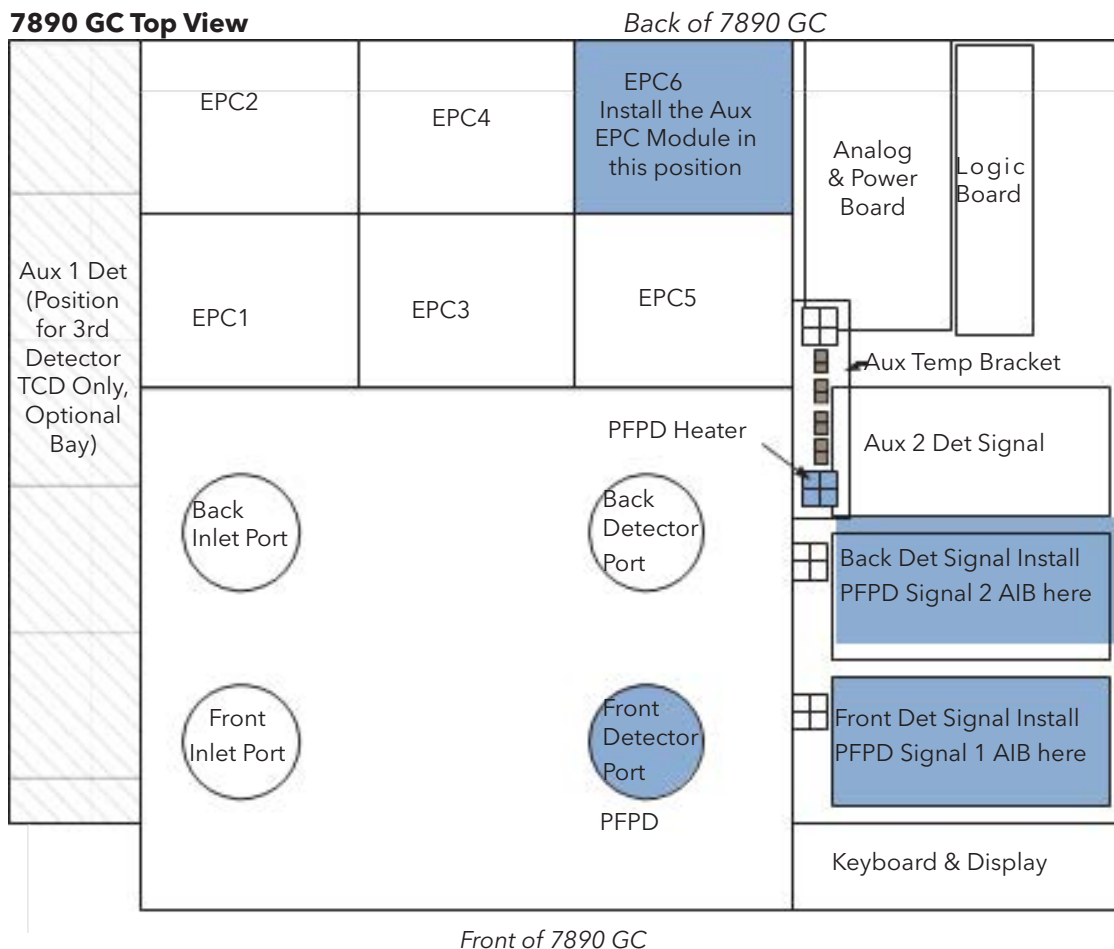

Figure 3.27. Suggested Location for PFPD Components
2. Select the appropriate detector port and flow module position; refer to Figure 3.27.
NOTE: See Figure 3.27 for recommended installation positions.
9. Install the AIB board(s) per the Agilent instructions (see Figure 3.27 for placement).
2. Scroll to the appropriate Aux EPC position and press **Enter**. Refer to Figure 3.27. For example, if the Aux EPC module is installed in the EPC6 position, select **Pressure Aux 1,2,3**.
2. Select the appropriate Thermal Aux position (see Figure 3.27). For example, if the heater is installed in the front Aux position, select **Thermal Aux 1**.
1. Determine where the AIB board(s) was installed using Figure 3.27.